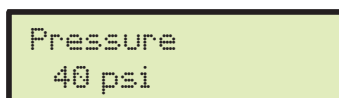

Fig. 63
- Press **OK** to automatically pass to the setting screen of the reference pressure (Fig. 63).